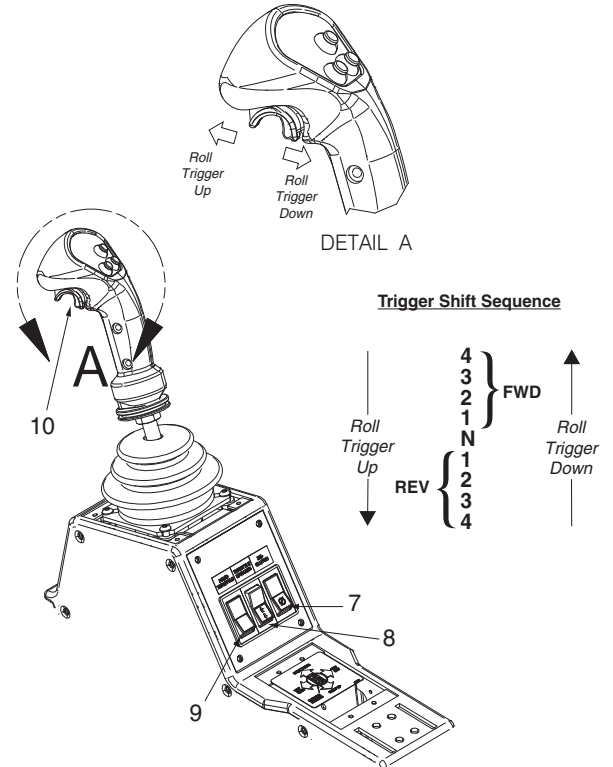

Figure 3-23 Right Armrest Control Unit
Over rides foot throttle. To engage flip switch into the on position. Used with item 9 (see Figure 3-23). NOTE: For engine warm up only.
Adjusts RPM's up or down when adjacent switch (item 8, see Figure 3-23) is engaged.
Gear and directional shifts (see Figure 3-23) are controlled by rolling the trigger down (forward) and rolling the trigger up (reverse).